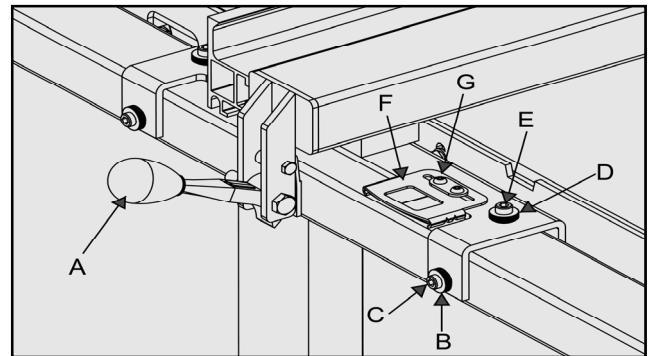
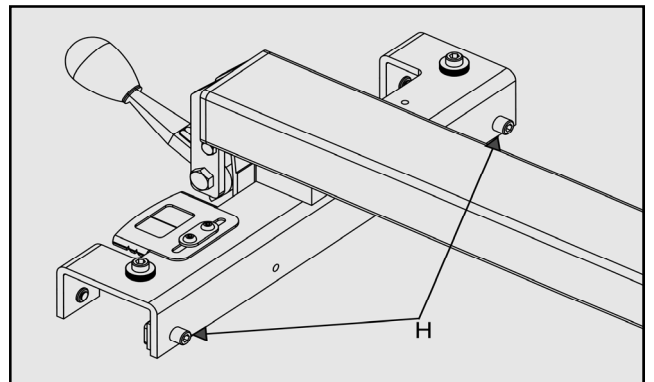

Fig. 21
Fig. 22
1. The rip fence must be perfectly aligned with the table T-slot. To verify this, align the edge of the rip fence with the table T-slot and lower the locking lever (A) **Fig. 21** to lock in into place. Check to see if the edge of the rip fence and the table T-slot are parallel. If they are not parallel, adjust the set screws (H), as shown in **Fig. 22**, in or out. Verify the adjustment, repeat if necessary.
2. The lock lever pressure can be adjusted by loosening the front lock nuts (B) as shown in **Fig. 21** and adjusting the set screws (C) the same
3. To set the fence perpendicular to the table, place a square on the table and against the side of the fence, loosen the top lock nuts (D) and adjust the setscrews (E) until the fence is perpendicular. Retighten the lock nuts.
4. The pointer window (F) as shown in **Fig. 21**, can be adjusted if needed by loosening the pan head screws (G), repositioning the window and retightening the pan head screws.